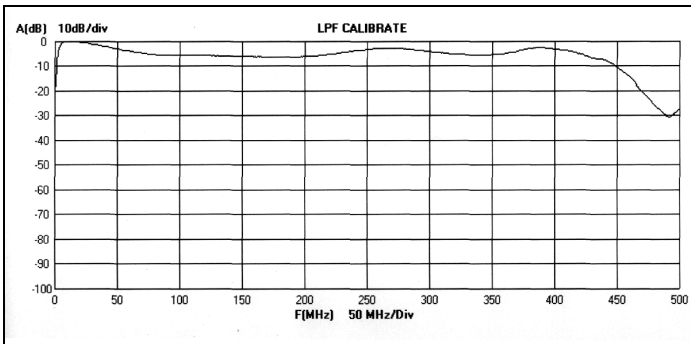

Fig 15: Calibrating the low pass filter on the output of the DDS.
- Adjust trimmers C109, C111, C113 and C115 until the line is as flat as possible with a steep fall off at about 450MHz. The best that I could achieve is shown in Fig 15